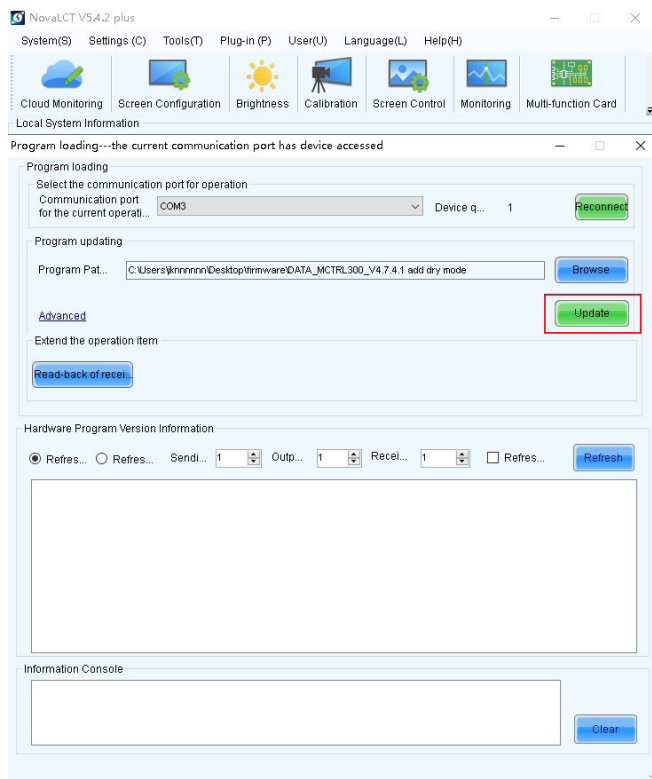

Figure 1-6
6. Click **Update** to start updating. See Figure 1-6.